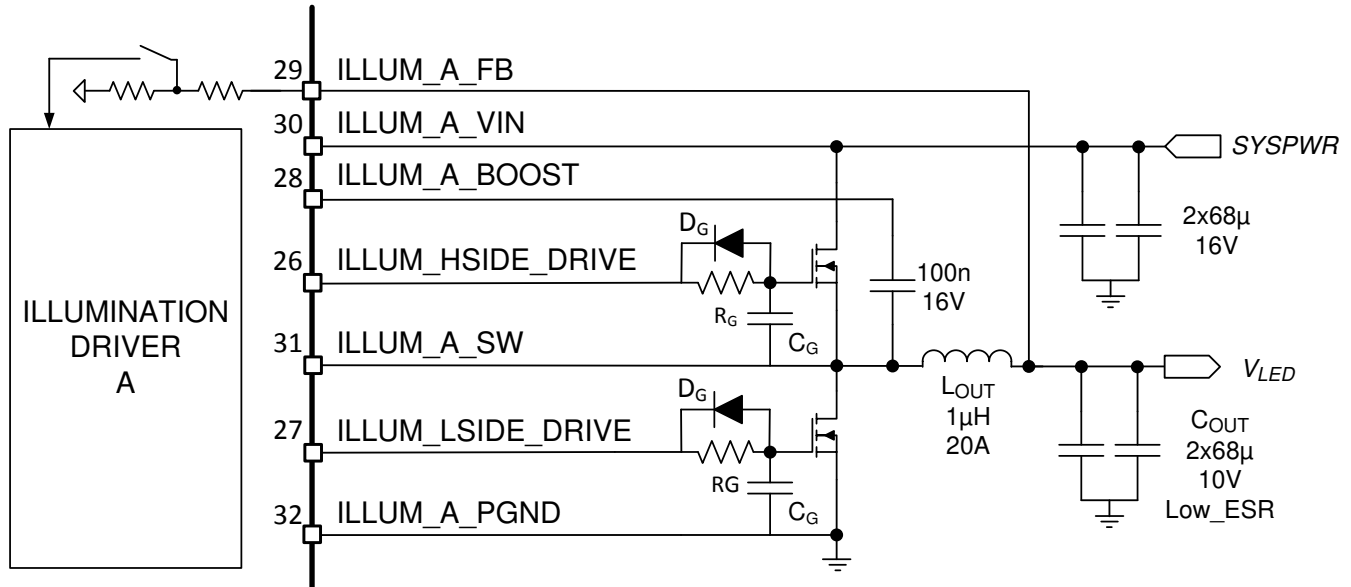

FIG 7-4. Typical Illumination Driver Configuration
The illumination driver of the DLPA3005 is a buck controller for driving two external low-ohmic N-channel FETs (Figure 7-4). The theory of operation of a buck converter is explained in the application note Understanding Buck Power Stages in Switchmode Power Supplies. For proper operation, selection of the external components is very important, especially the inductor  $L_{OUT}$  and the output capacitor  $C_{OUT}$ . For best efficiency and ripple performance, an inductor and capacitor should be chosen with low equivalent series resistance (ESR).
Below (图 7-10) an overview is given of the efficiency of the illumination driver plus power FETs for an input voltage of 12 V. Used external components (图 7-4): High-side FET (L) CDS17506Q5A, Low-side FET (M) CDS17501Q5A,  $L_{OUT} = 2 \times 2.2 \mu\text{H}$  parallel,  $C_{OUT} = 88 \mu\text{F}$ . The efficiency is shown for several output voltage levels ( $V_{LED}$ ) versus output current.